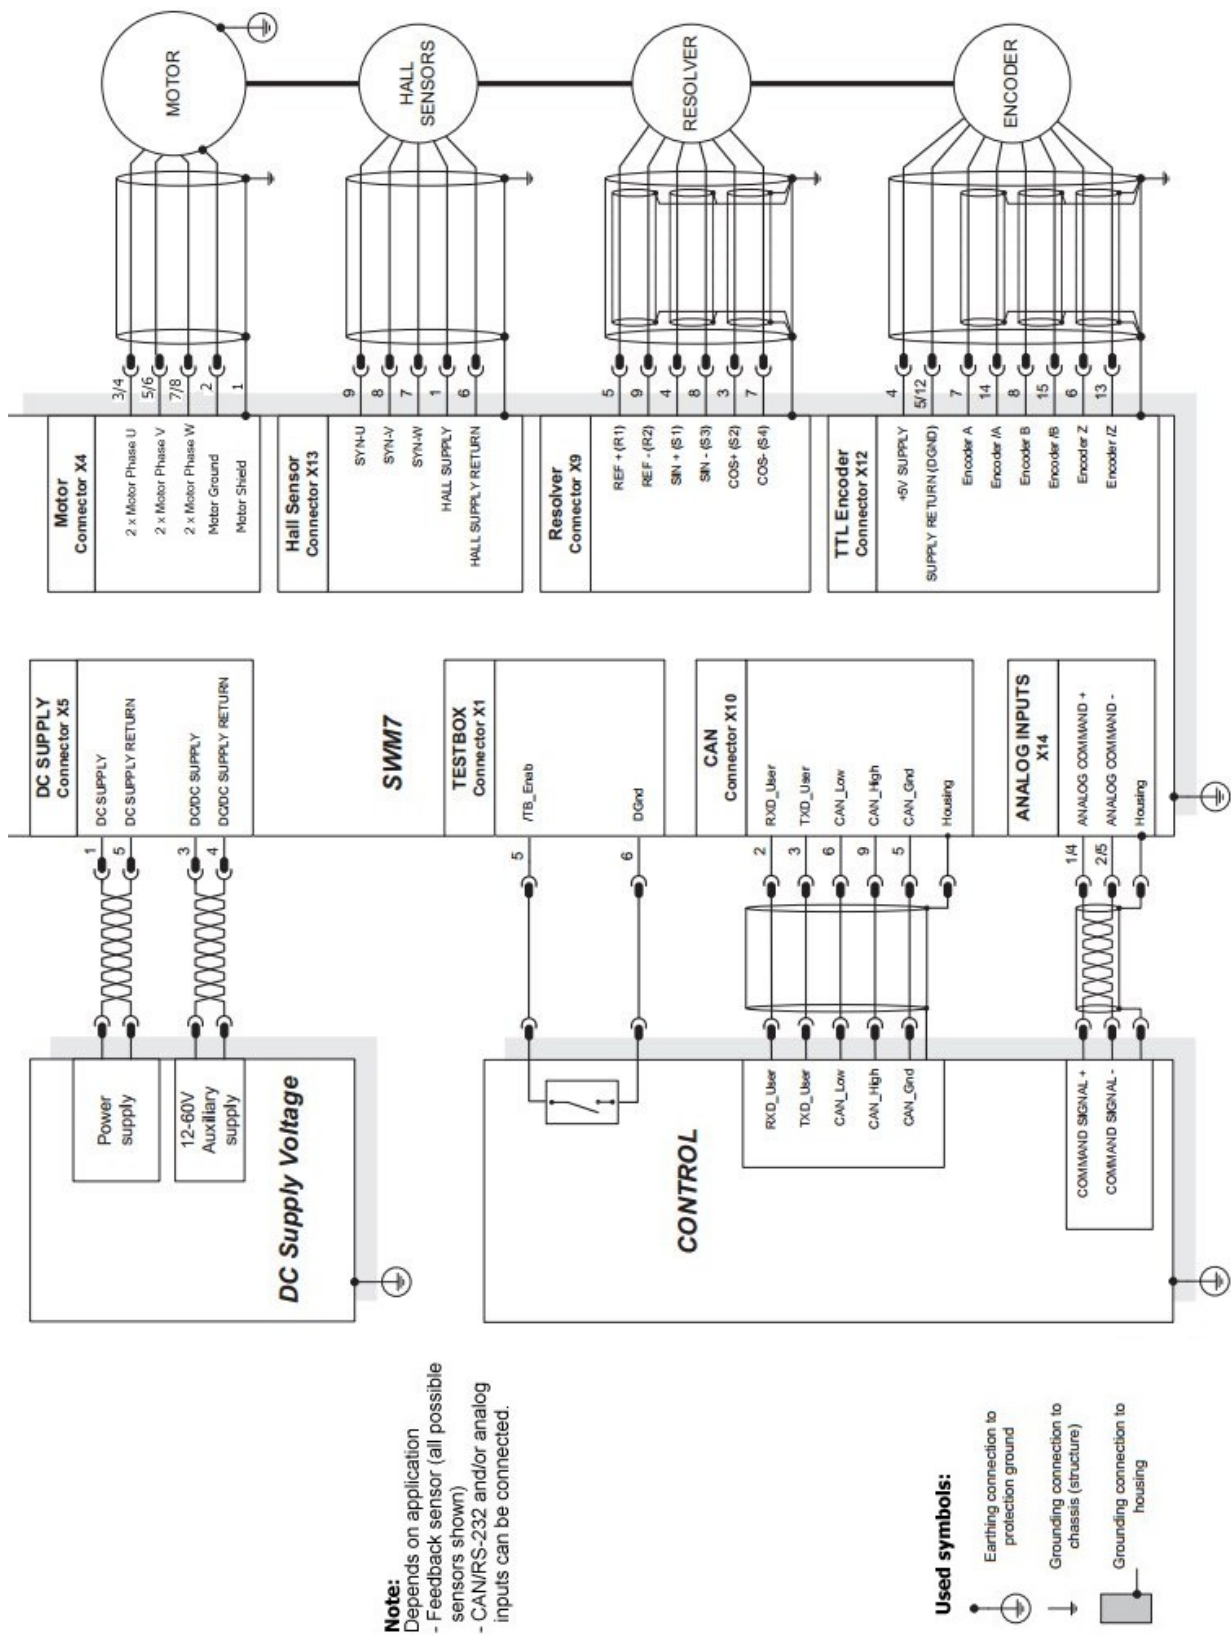

Figure 5.1: Connection diagram (Overview)
- Pay attention to proper grounding of the servo controller and motor housing. Use for motor, encoder and control cables shielded cables with sufficient cross section (EN 60204), see Fig. 5.1.
For details see Fig. 5.1.
- Overview Fig. 5.1 (page 35)